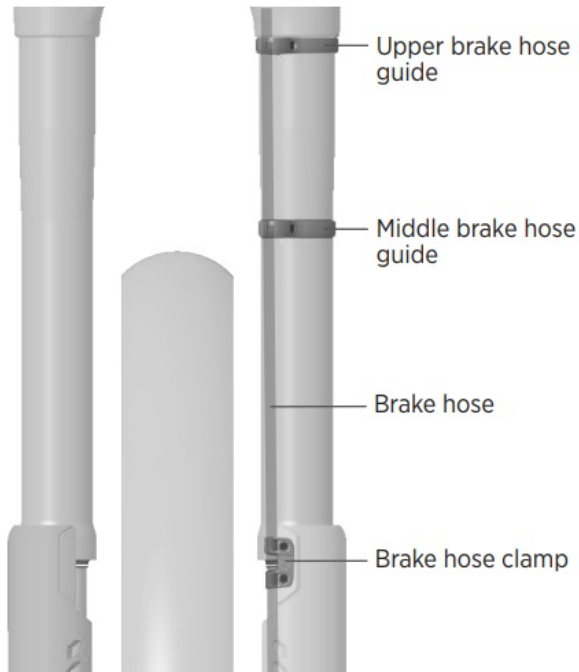

Figure 6: Brake hose routing through brake hose guides and into brake hose clamp
3. Remove the two screws from the middle and upper brake hose guides. The middle brake hose guide is marked with an “M” and has a slightly smaller diameter than the upper brake hose guide (marked with a “U”). Install the brake hose through the opening in each of the guides and install them on the left fork leg (Figure 6). Loosely reinstall the screws.